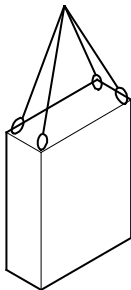

Fig. 22
1. Fasten ropes, belts or multi-point tackle as shown in Fig. 22.